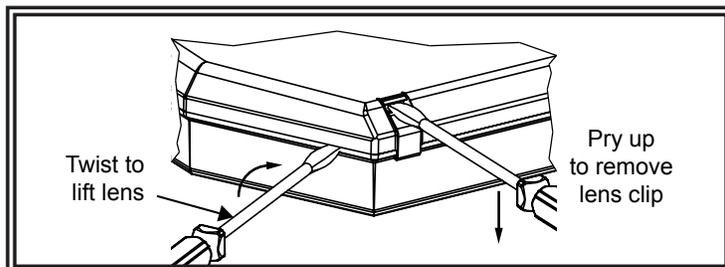

Figure 8
Step 1. Uninstall the lens clips (4 per lens), as shown in FIGURE 8, using a flat blade screwdriver.